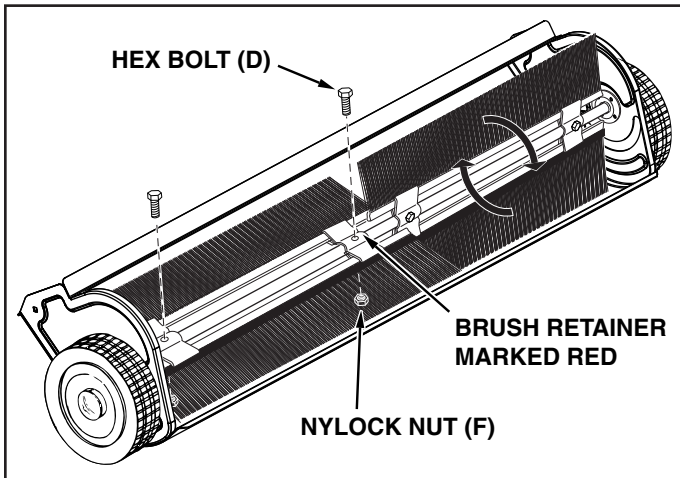

FIGURE 4
STEP 5: (SEE FIGURE 4)
- Attach the brush assembly with the red brush retainer to the left end of the brush shaft using two hex bolts (D) and nylock nuts (F). The brush retainer marked with red ink must be placed to the **middle** of the sweeper.